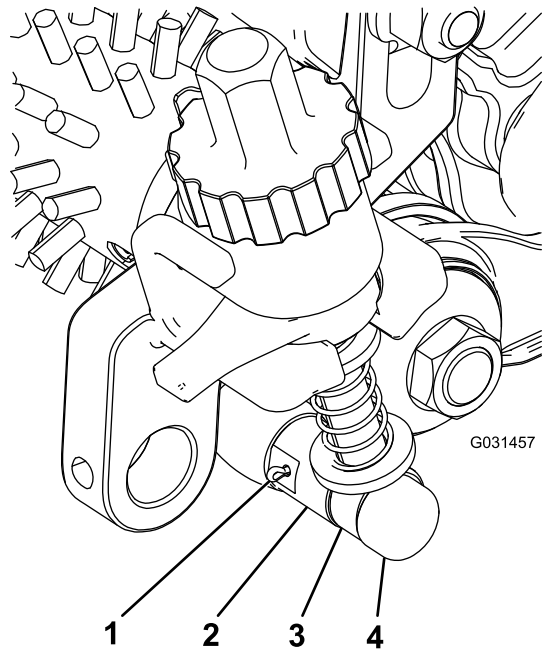

Figure 23
- Align the adjuster-arm assembly rod near the idler assembly with the adjuster collar on the idler assembly and secure it with an adjuster pin and cotter pin (Figure 23).